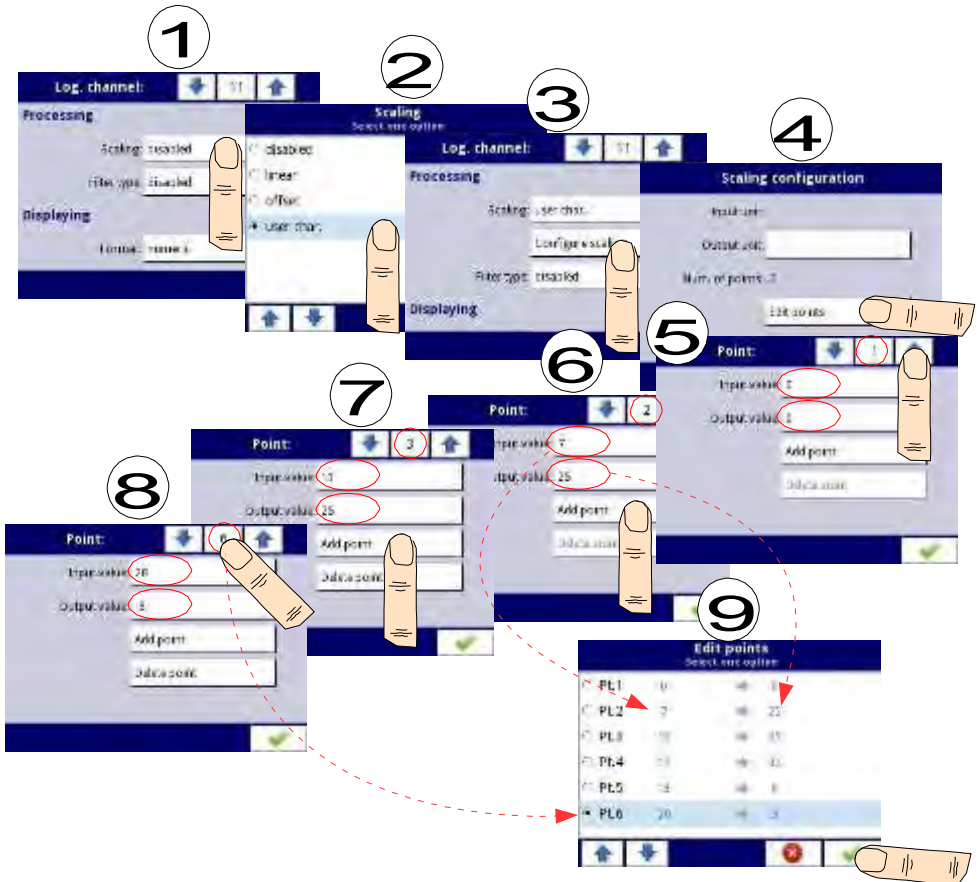

Fig. 7.35. Configuring the user characteristic
1. Press the button next to the Scaling label and select user characteristic option (point (1) and (2) in Fig. 7.35).
2. Press the Configure scaling button and enter the Scaling configuration menu (point (3) in Fig. 7.35).
4. Press the Edit points button (point (4) in Fig. 7.35) and go to Edit points menu.
For Point 1 set input and output value (point (5) in Fig. 7.35).
5. Switch to Point 2 by using the arrow keys and there also set the value of input and output (point (6) in Fig. 7.35).
8. At the end we check all the points defined by clicking the middle button between the arrows in the upper right corner of the screen (point (8) and (9) in Fig. 7.35).